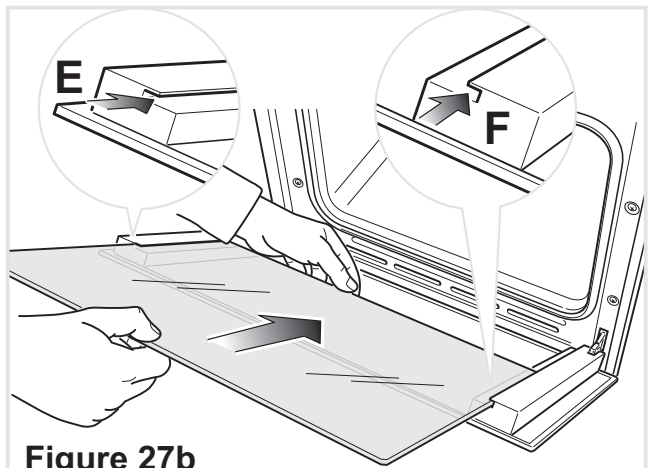
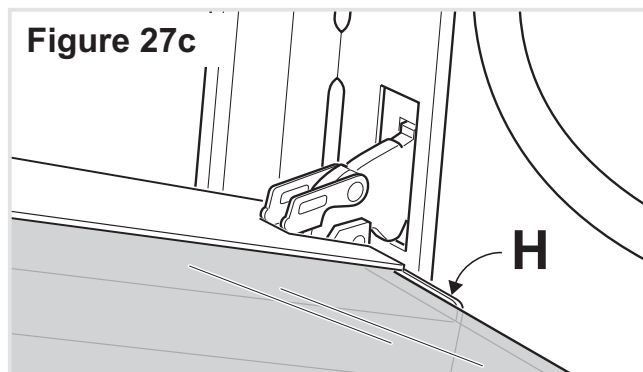

Figure 27b
Figure 27c
- Insert the pane in the left “E” and right “F” slide guides (fig. 27b), and gently slide it to the retainers “H” (fig. 27c).